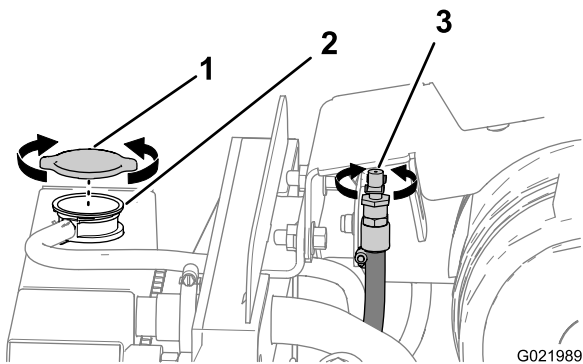
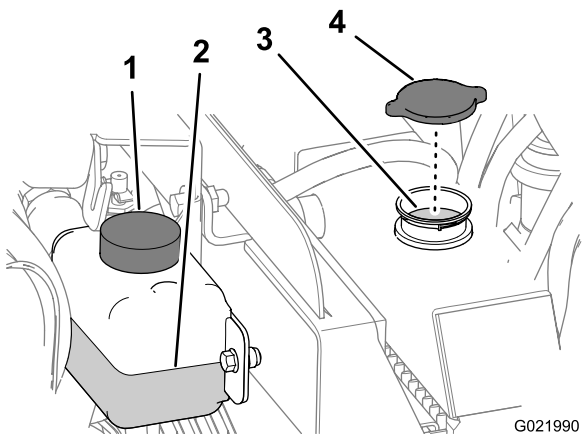

Figure 76
Figure 77
4. Open the vent valve for the engine (Figure 76).
- Remove the radiator cap from the filler neck of the radiator and check the coolant level (Figure 76 and Figure 77),
- If the coolant level is low, add coolant until the level is up to the bottom of the filler neck (Figure 77).
- Remove the radiator cap (Figure 76 and Figure 77).
- B. Open the vent valve (Figure 76).
- A. Open the vent valve (Figure 76).
1. Remove the radiator cap (Figure 76 and Figure 77).
2. Open the vent valve (Figure 76).